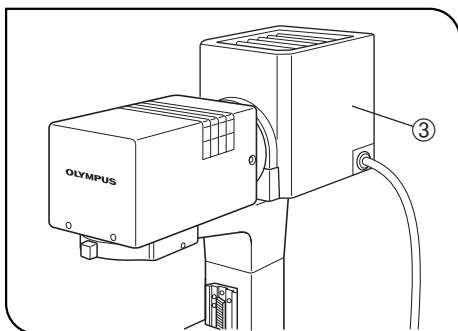

Fig. 3
10. To avoid potential shock hazards and burns when replacing the light bulb, set the main switch to “○” (OFF) then disconnect the power cord from the wall outlet in advance. Whenever you replace the bulb during use or right after use, allow the lamp housing ③ and bulb to cool before touching. (Fig. 3)